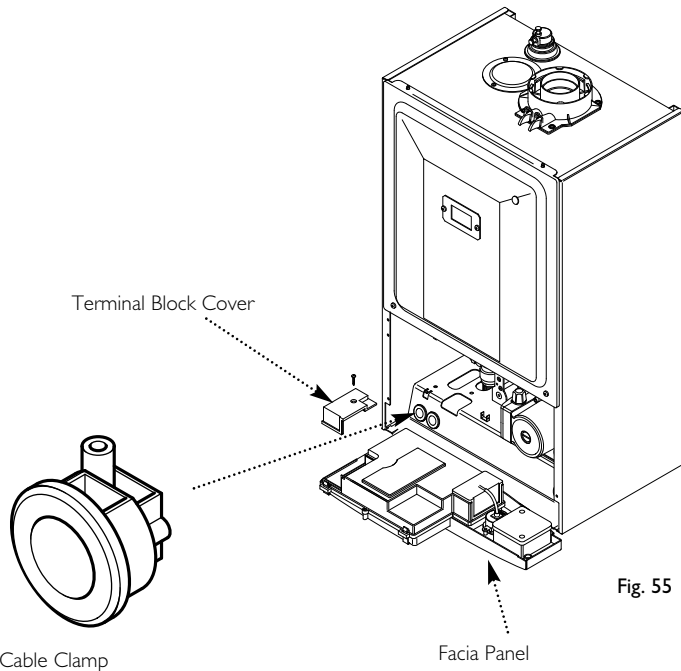

Fig. 55
2. Completely undo the screws securing the facia panel and hinge it down (Fig. 55).
3. Undo the terminal block cover securing screw and remove the cover (Fig. 55).